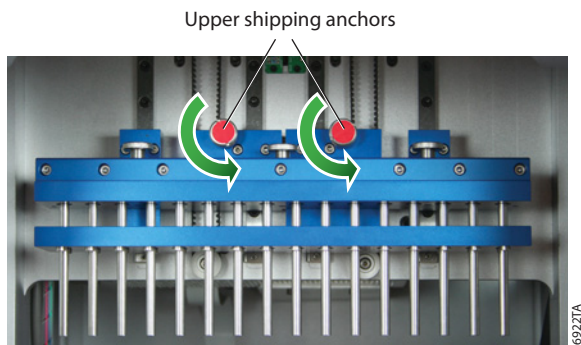

Figure 8. Upper shipping anchors.
3. Open the instrument door and locate the Magnetic Rod Assembly/Plunger Bar and Platform shipping anchor thumbscrews, labeled with red stickers (Figures 8 and 9). Remove them.